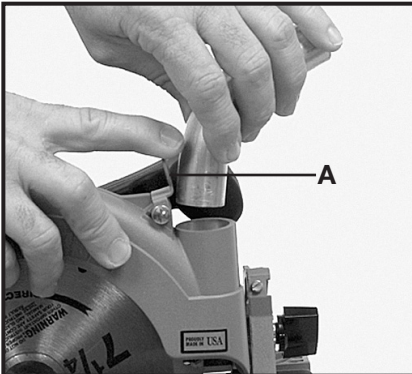

Fig. 11
2. Swing open exhaust cover (A) Fig. 11, and clean out any sawdust that may have accumulated.